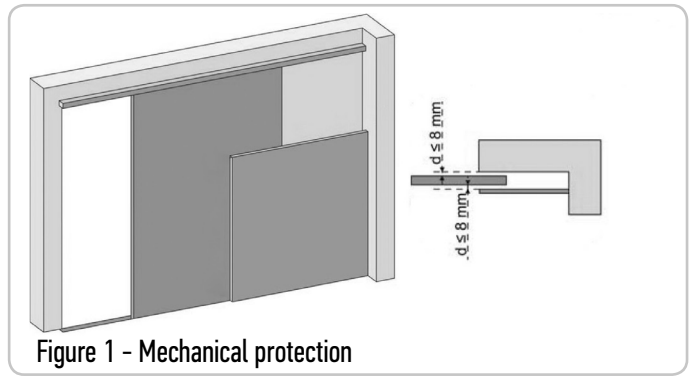

Figure 1 - Mechanical protection
ZONE 2 Risk of crushing with an adjoining fixed part	Obstacle detection built into the motorisation. It must be imperatively checked that the obstacle detection complies with annex A of the standard EN 12 453. Mechanical protection (see figure 1) or via safety distances (see figure 2)
2.1 Product components - Fig. 1